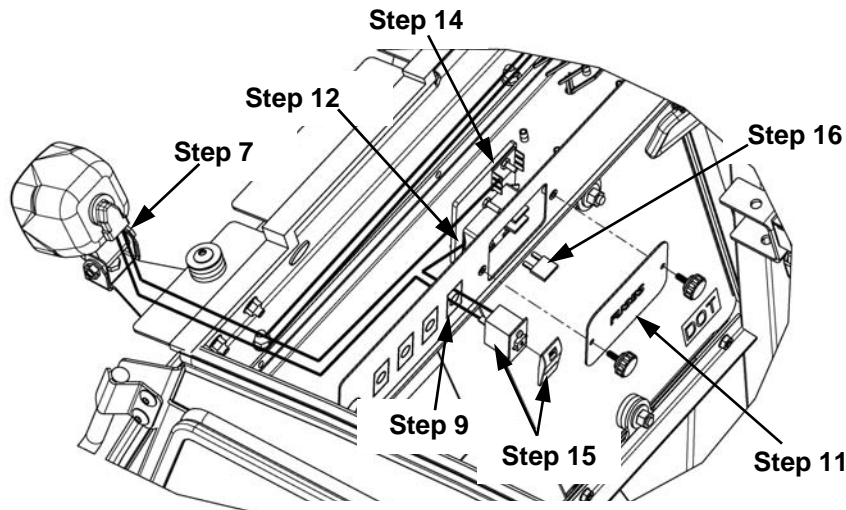

Figure 4
7. Locate wire harness with light connector ends (Item 14). Connect light end of wire harness to each light **(Figure 4)**.
9. Select an empty location on switch panel to install rocker switch (Item 5). Remove rectangular knockout **(Figure 4)**.
12. Locate the shorter single wire fuse block to switch wire harness 3-19686 (Item 13). Connect 90 degree end of wire to empty fuse terminal location, selected in step 11 **(Figures 4 & 6)**.
14. Connect **black** wire of harness labeled -12VDC Lights to ground terminal of fuse block (**Figures 4 & 6**).
15. Attach switch actuator (Item 6) to rocker switch (Item 5) then install switch into knockout (**Figure 4**).
16. Install 10 amp fuse into fuse block location selected in Steps 11-12 (**Figures 4 & 6**).